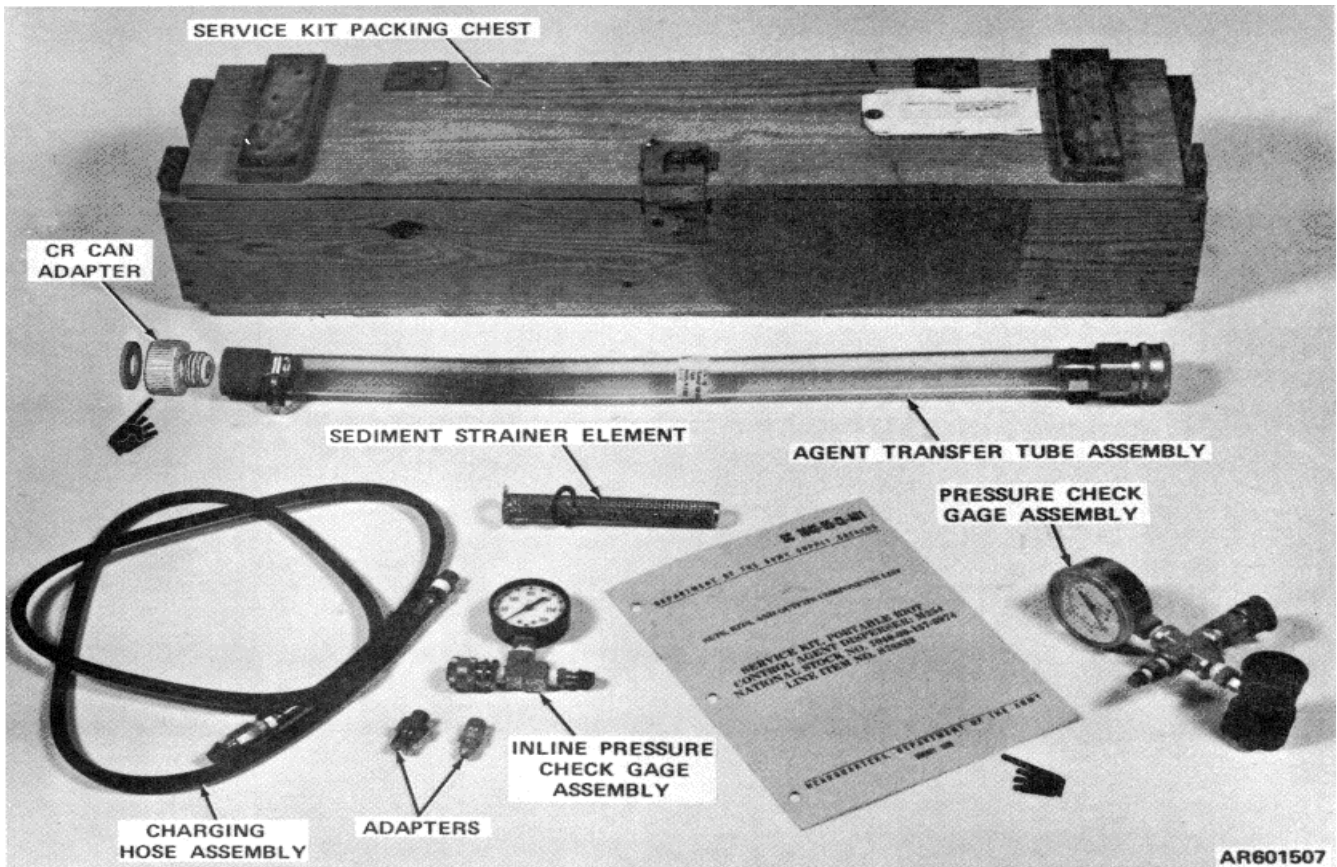
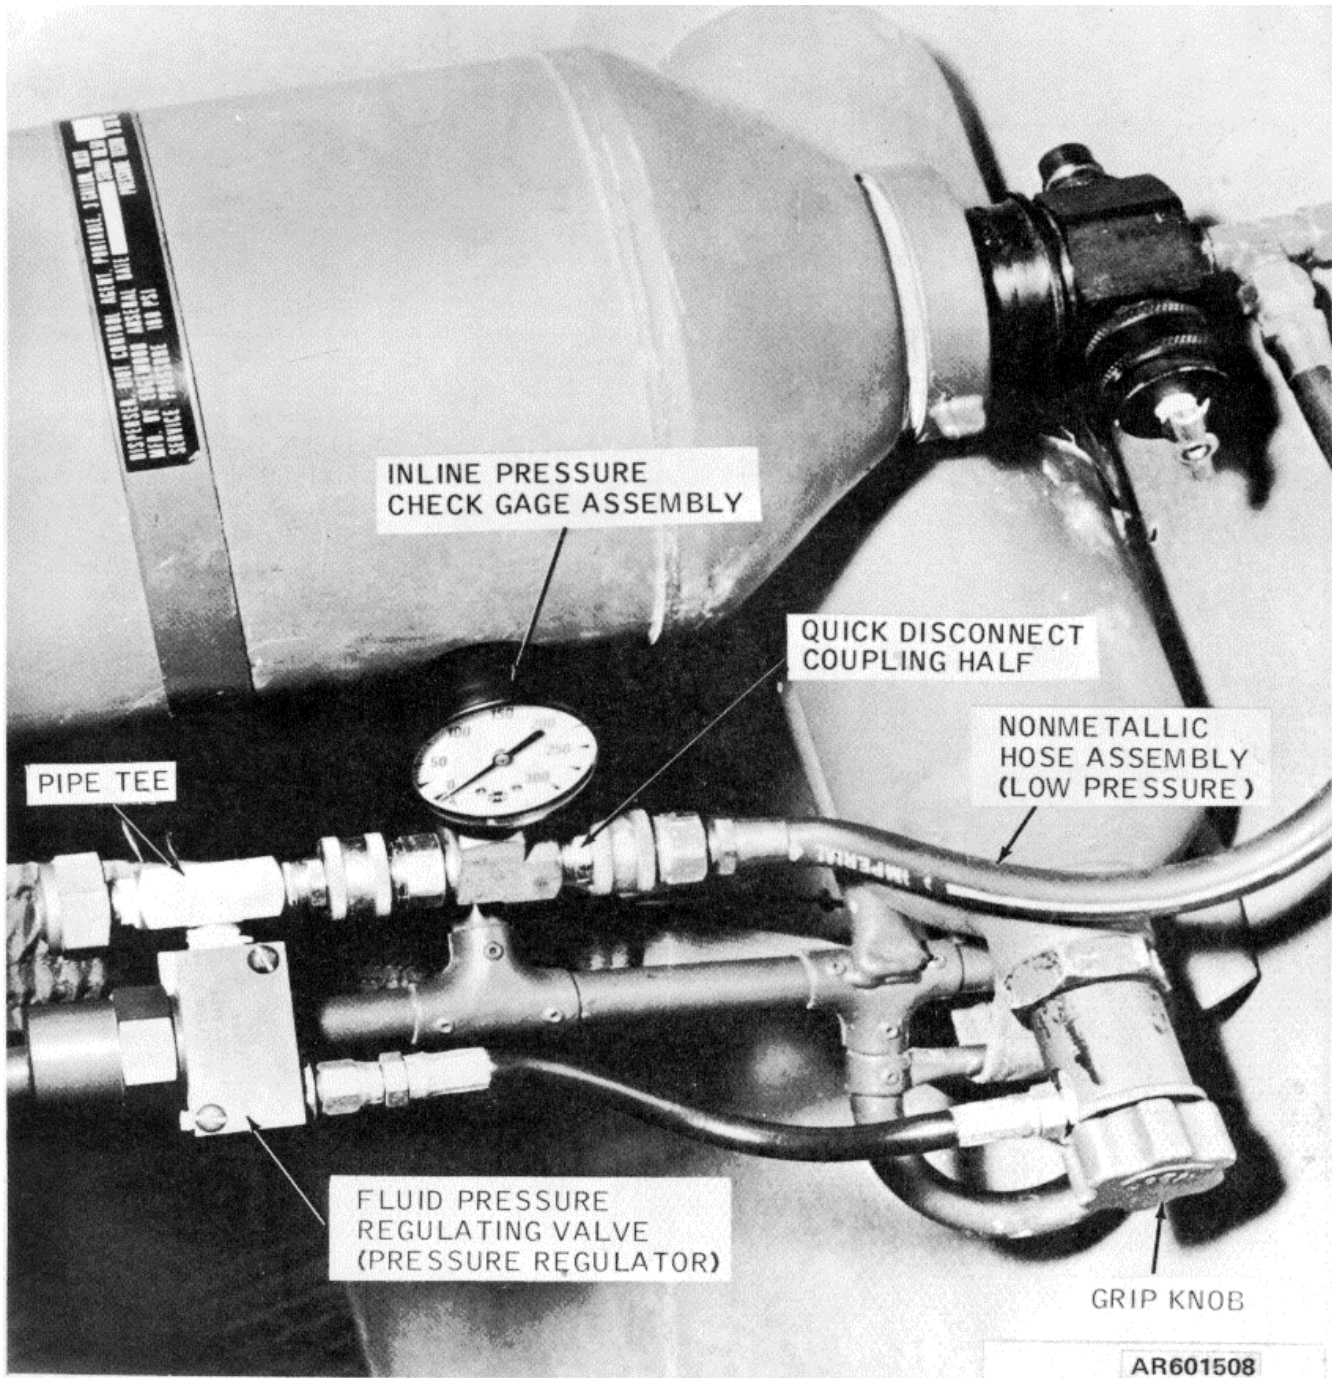

Figure 4-2. Service Kit, M254.
Figure 4-3. Connections for checking pressure regulator setting
the service kit are as shown in figure 4-2 and contained in SC 1040-95-CL-A01. Inspect the service kit for damaged or missing parts (para 4-5).
The M254 portable riot control agent disperser service kit (fig. 4-2) (SC 1040-95-CL-AOI) consists of the following items:
- c. Install the inline pressure check gage assembly (fig.4-2) to the female quickdisconnect coupling half (8, fig.1-4).
- d. Connect the inline pressure check gage assembly to the male quickdisconnect coupling half (7).
- e. Check that trigger is released and the drain cock (16) is closed.
- f. Rotate the grip knob (fig. 4-3) counterclockwise (in the direction marked by arrow and the work OPEN on the grip knob) until resistance is felt.
- i. Turn the grip knob (fig. 4-3) clockwise until resistance is felt to stop the flow of high pressure air to the pressure regulator assembly.